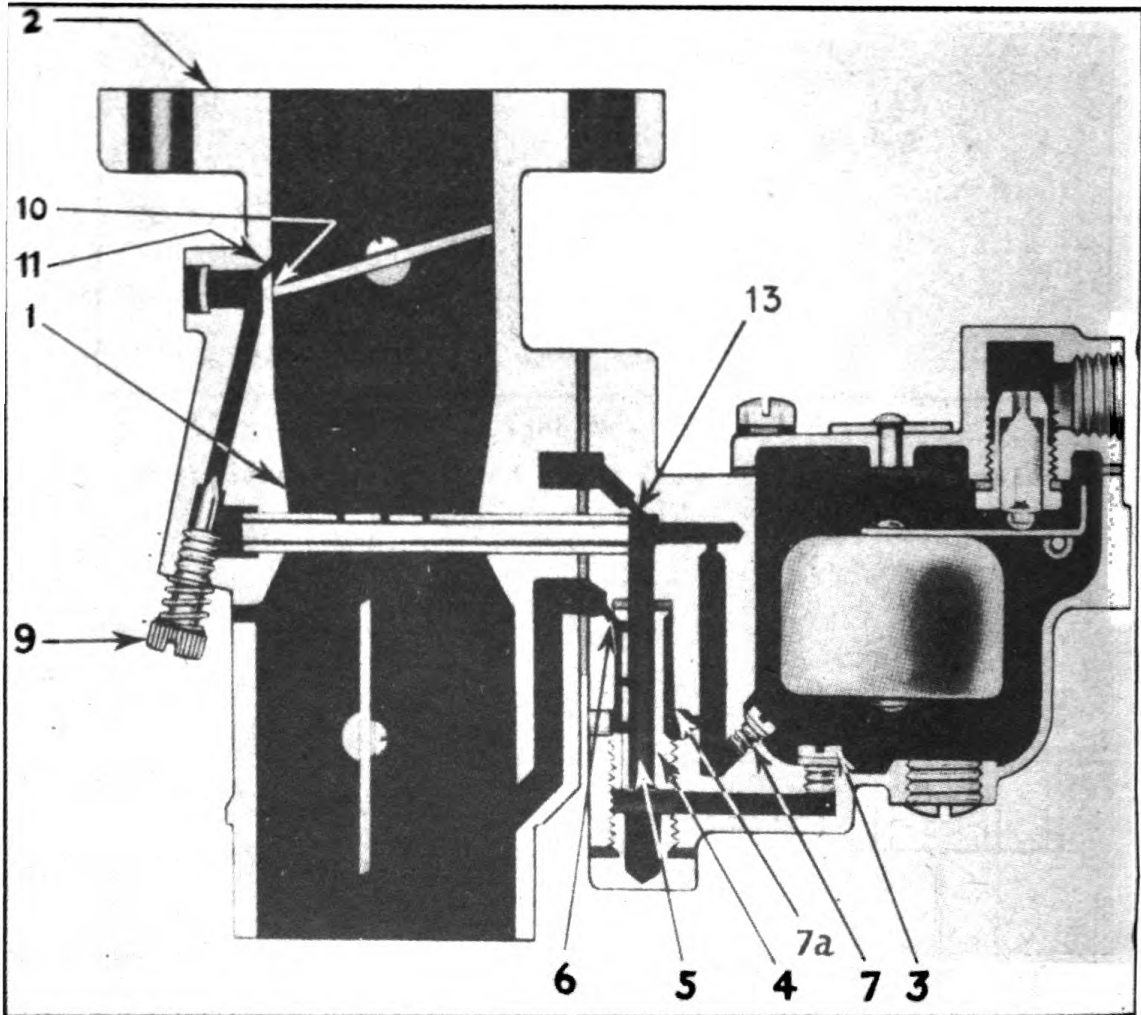

FIGURE 33 - CARBURETOR CROSS SECTION
413 - CARBURETOR ADJUSTMENT - Before starting any adjustments, make sure they are necessary. Check the fuel line, fuel supply, and sediment trap. Drain the carburetor by removing the slotted drain plug at the bottom of the float chamber. If fuel does not flow freely from this opening, the line from the tank entering at the top of the float chamber is plugged. The most important thing to remember in servicing a carburetor is to keep the interior clean, with all channels free from obstructions, and to always replace worn parts or gaskets. The only calibrating adjustment on the carburetor is the idling adjusting screw, 9, Figure 33. If the engine loads up or seems lopy, it is an indication that the mixture is too rich. If the engine slows down and pops in the carburetor, the mixture is too lean. Adjust until the engine runs smoothly.
414 - CARBURETOR CONSTRUCTION - Figure 33 shows the construction of the carburetor used on the ICK starting engine. The Venturi (1) is cast integrally with the carburetor and measures the volume of air which is passed through the carburetor. The venturi size used is the smallest one which will permit full power development. The venturi size is indicated by figures stamped on the face of the carburetor flange (2). The Main Jet (3) and the Well Addition Jet (7) are the principal fuelmetering jets. The Main Jet fuel feeds through a channel into the Metering Well (4). The Main Jet regulates the fuel supply at all but slow speeds. The Metering Well (4) controls the mixture characteristics